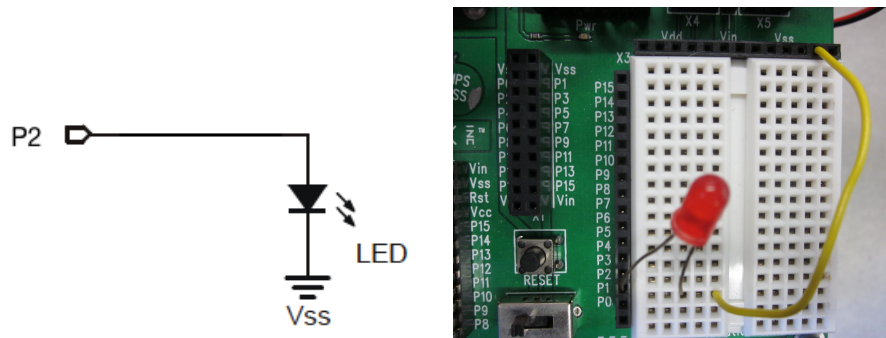

Figure 13: LED Circuit to Troubleshoot.
2. Build the circuit shown in Figure 13 on your breadboard.